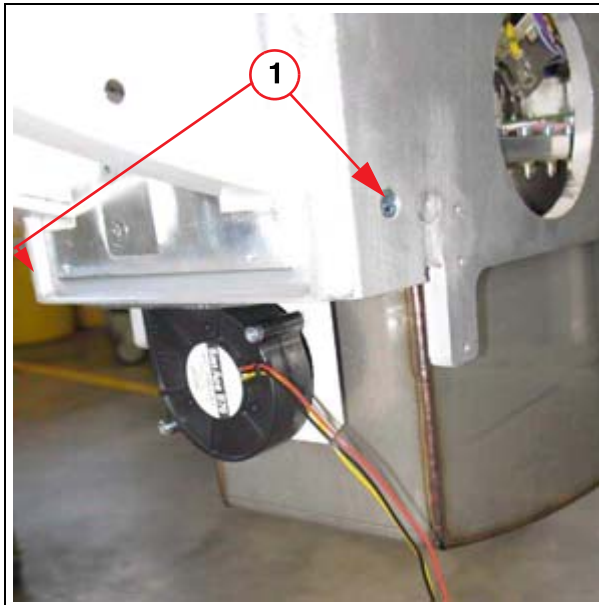

Fig. 16: Fan_Single_Tank
4. Remove the 2 Allen screws from the fan housing (1/ Fig. 16 / p. 41).